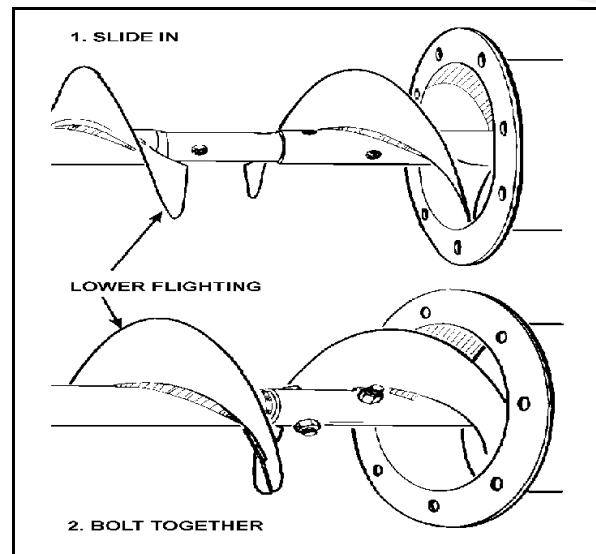

Figure 3.2 Flighting Joint Bolting
2. Slide lower flight shaft into upper flight shaft until flight ends butt together and flighting spiral matches up (see Figure 3.2). Secure with hardware listed in Table 3.1 below.